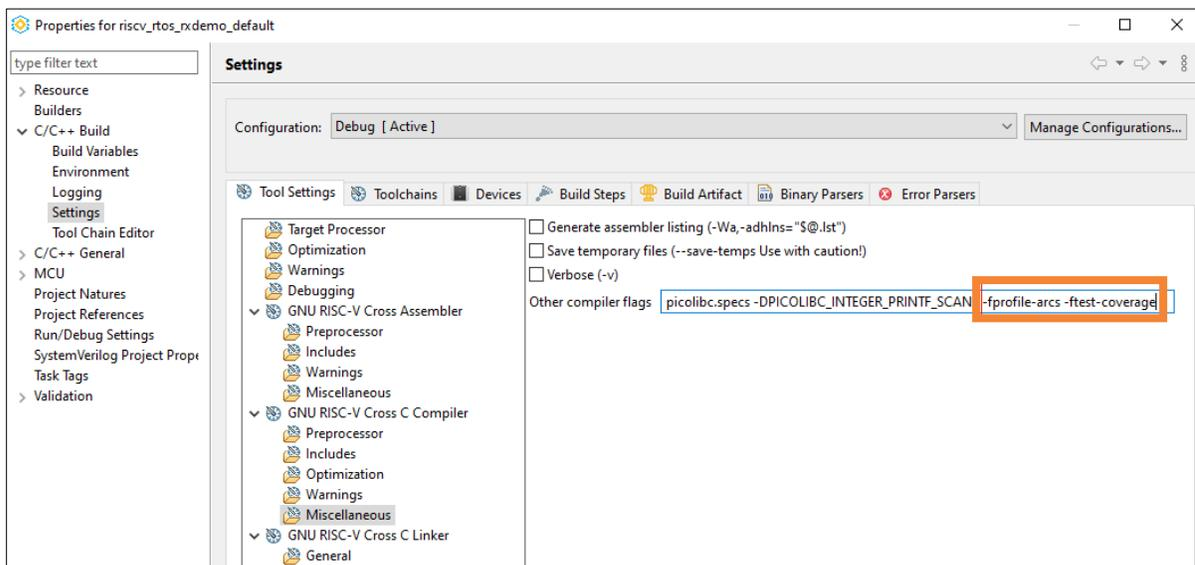

Figure 6.11. -fprofile-arcs -ftest-coverage Compiler Flag
4. Select **GNU RISC-V Cross C Compiler > Miscellaneous**. Add the compiler flag, -fprofile-arcs -ftest-coverage (Figure 6.11).